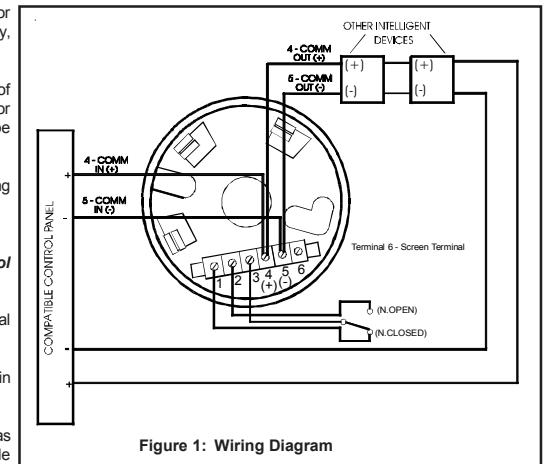

Figure 1: Wiring Diagram
Wire the normally closed (NC) line to terminal 1 (see Figure 1). Insert the normally open line of the relay to terminal 2 and the relay common line to terminal 3. Wire the communication lines in (+) and out (-) to terminal 4. Insert the communication line in (-) and out (+) to terminal 5. Terminal 6 is for shielded cable only (see Figure 1). If shielded cable is used, the shield connection to and from the detector must be continuous by using wire nuts, crimping, or soldering to ensure a reliable connection. If shielded cable is not used, leave terminal 6 in the screwed-down position.